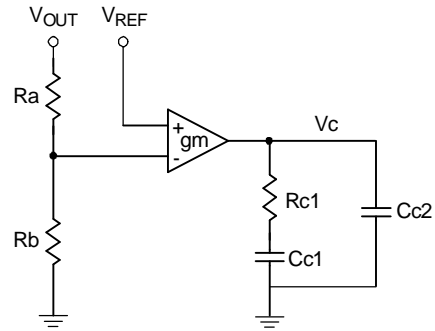
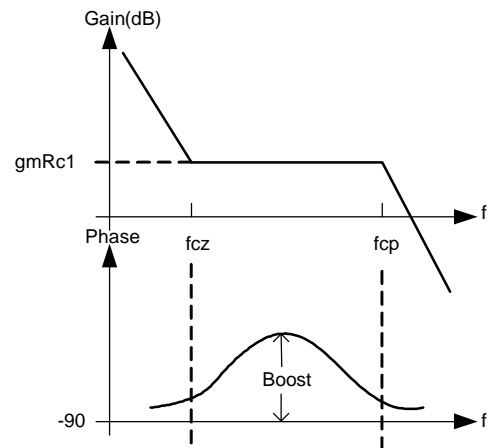

Figure 9. The typical type 2 trans-conductance error amplifier.
Figure 10. The Bode plot of type 2 trans-conductance error amplifier
So, the transfer function of compensator C(s) must be designed to meet these requirements. In many applications, use an electrolytic capacitor as the output capacitor, if the zero (f_z) caused by effective series resistance (ESR) of capacitor is a few kHz and smaller than 8 times f_p , the type 2 (PI) can be used to get desired compensation. Figure 9 shows the typical type 2 trans-conductance error amplifier and the Bode plot is also shown in Figure 10.